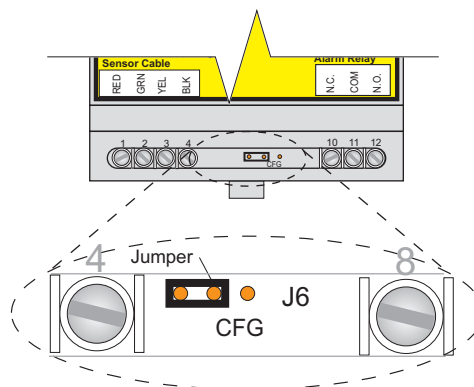

Figure 7b. Configuration Jumper set for Normal Operation
- Place the configuration jumper in the normal operating position, as shown in Figure 7b, or remove it completely (the jumper is not required in normal operation).